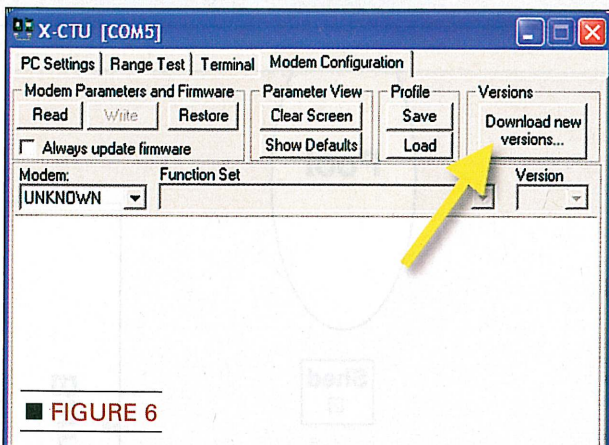

FIGURE 6
- **STEP 3:** Select the modem configuration tab and hit the Download New Versions button as shown in Figure 6. This will download the latest mesh network firmware files from the Maxstream website. In order to do this, you will need to be connected to the Internet during this step.